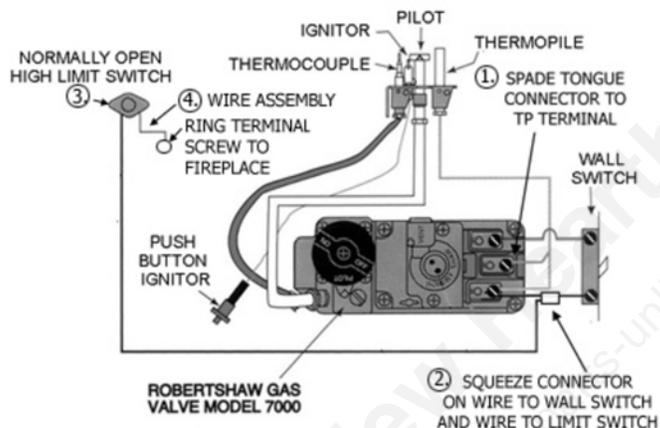

Figure 2- Simplified Wiring Diagram
- Attach blue wire to replacement Limit Switch (item 3), see Figure 2.
- Attach Black Wire Assembly (item 4) to other terminal of the Limit Switch using the Spade Connector, see Figure 2.
- The Ring Terminal of the Black Wire Assembly is to be secured to the closest existing screw, see Figure 2.
- Use the Squeeze Connector (Item 2), crimp the Blue Wire from the Limit Switch to the Wall Switch Wire that is connected to the TH/TP terminal on the gas valve, See Figure 2.